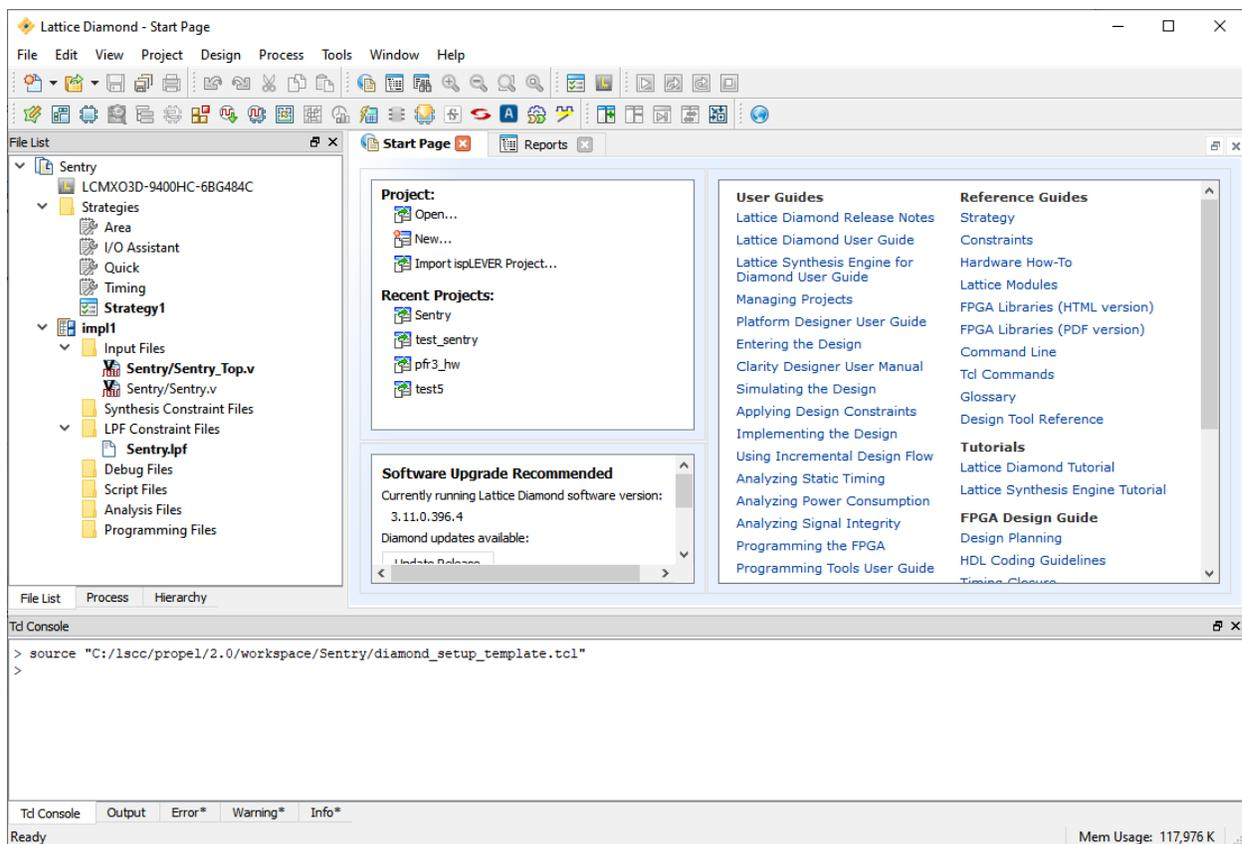

Figure 2.55. Diamond Project
- Lattice Diamond is launched with a Diamond project generated for SoC at background (Figure 2.55).